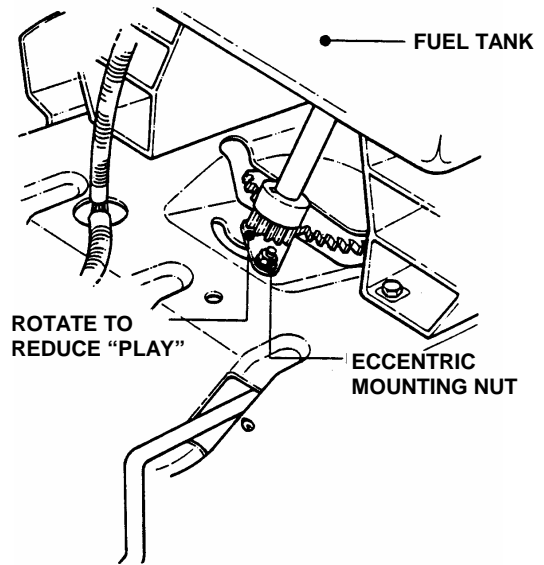

FIGURE 4.9
2. From left side of tractor, locate the steering sector below fuel tank. See Figure 4.9.
3. Loosen the eccentric mounting nut and rotate the eccentric clockwise until steering "Play" is reduced. See Figure 4.9.